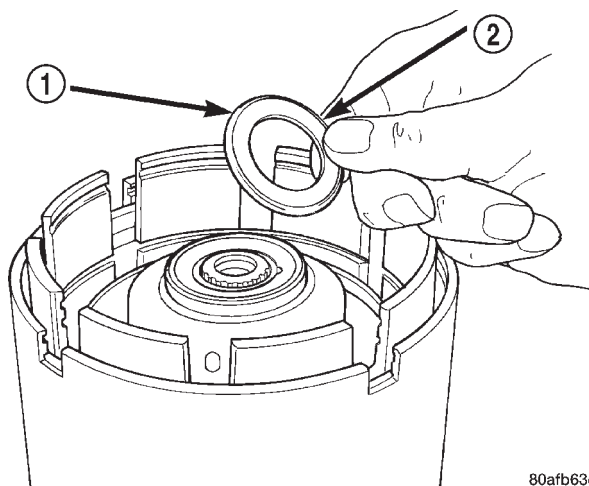

Fig. 285 Install No. 2 Needle Bearing
(36) To complete the assembly, reverse clutch and overdrive clutch must be removed.
(37) Install the #2 needle bearing (Fig. 285).